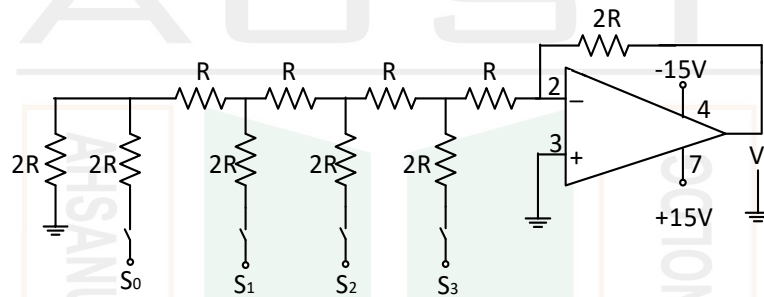

Figure-3
In this experiment R-2R Ladder circuit (figure-3) is used. Output equation of an R-2R Ladder circuit is given by-
1. Construct the circuit in figure-3. Connect S_0 , S_1 , S_2 and S_3 to the SPST switches of trainer board.
6. What is the purpose of using Opamp in figure-3?